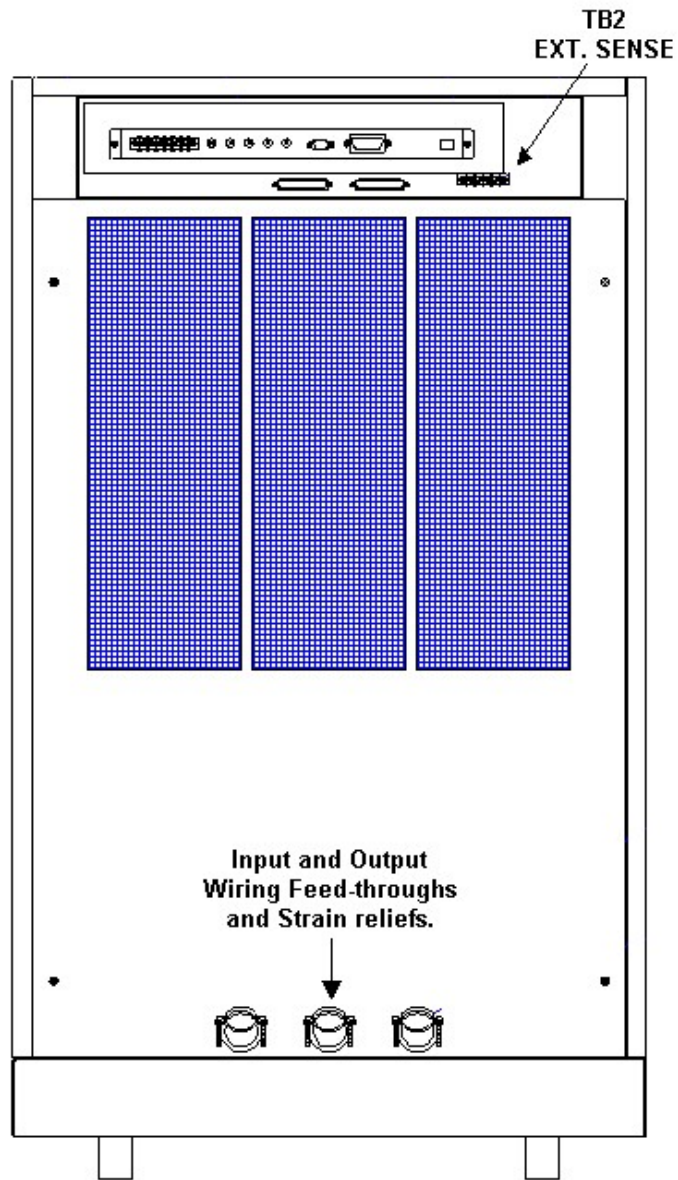
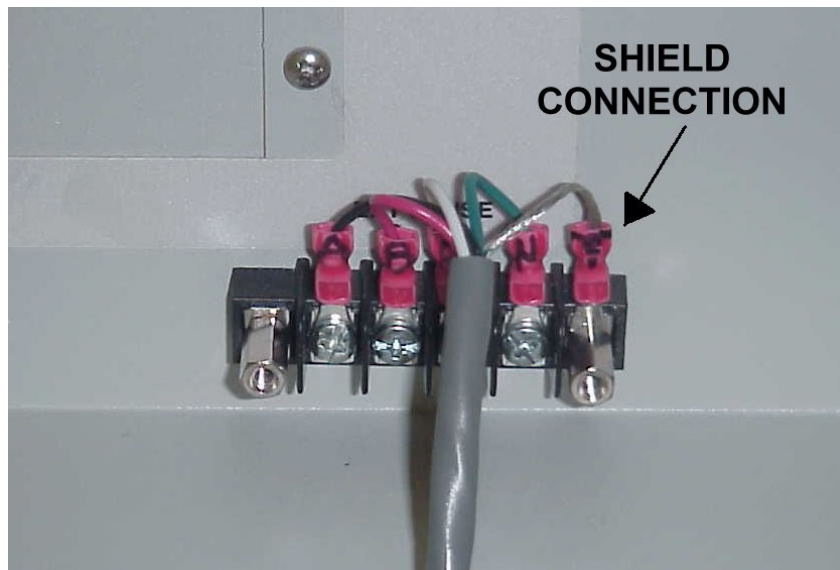

Figure 3-4: Rear Panel
Figure 3-5: External Sense Cable Shield Connection to Chassis Ground
No wiring for AC input connections is provided with the MX Series and must be provided by the end user or installer. Input wiring should be entered through the right hand side (when facing the back of the MX cabinet, see Figure 3-4) wire access opening located at the rear bottom of the MX chassis. A wire channel (marked as [2] in figure below) is provided below the input transformer to allow the input wiring to be routed to the front of the unit where the connections are to be made.
The external sense inputs allow the power system output voltages to be monitored directly at the load and must be connected at TB2 when the sense is programmed for external. The external sense input does not have to be connected when Internal Sense is programmed. The external sense wires are to be connected to TB2 on the rear panel and should be run using a twisted shielded cable. See Figure 3-4 for location of TB2 and Figure 3-5 for shield connection detail.
**Note:** *For External Sense connection, a shielded cable MUST be used with the shield connected to chassis ground at the Ext. Sense connector. (See Figure 3-5).*